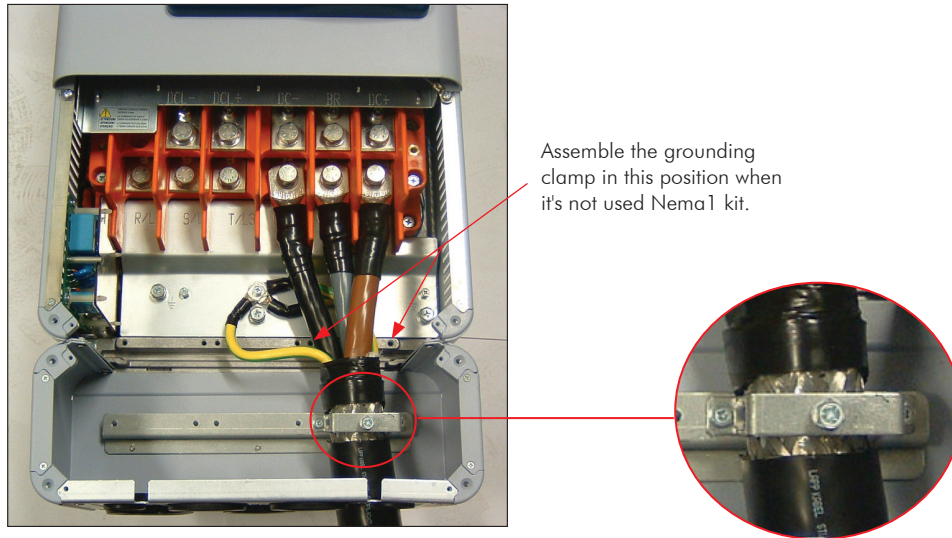

Figure 3.17 - Example of the motor cable shield connection at the inner part of the Nema1 kit supplied with the product
- (1) SCu = copper or aluminum external shielding.
- (2) AFe = steel or galvanized iron.
- (3) PE = ground conductor.
- (4) Cable shielding shall be grounded at both ends (inverter and motor). Use 360° connections for a low impedance to high-frequencies. Refer to Figure 3.17 on page 3-24.
- (5) For using the shield as a protective ground, it shall have at least 50 % of the power cables conductivity. Otherwise, add an external ground conductor and use the shield as an EMC protection.
- (6) Shielding conductivity at high-frequencies shall be at least 10 % of the power cables conductivity.
- ☑ Connection of the motor cable shield to ground: make a connection with low impedance for high frequencies. Example in the Figure 3.17 on page 3-24. In inverters without the Nema1 kit, connect the motor cable shield to the ground in a similar mode, with the clamp at the inverter inner part.